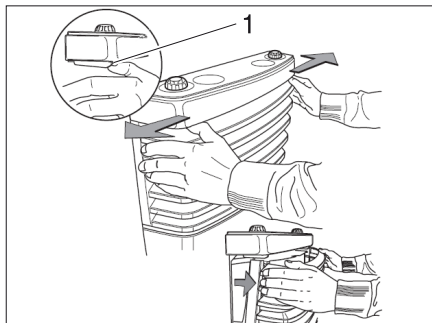

Fig. 106 Removing the heater cover
- Remove the heater cover. To do so, push the locking springs (Fig. 106,1) sideways and outwards, swivel the cover forwards and lift it out of the lower brackets.